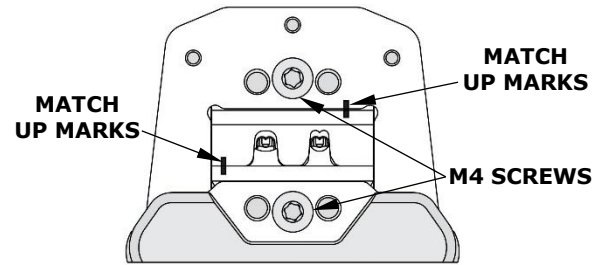

Figure 5
5. Install the M4 screw. Make sure the small markings on the front of the hand tool frame match up. See Figure 5.